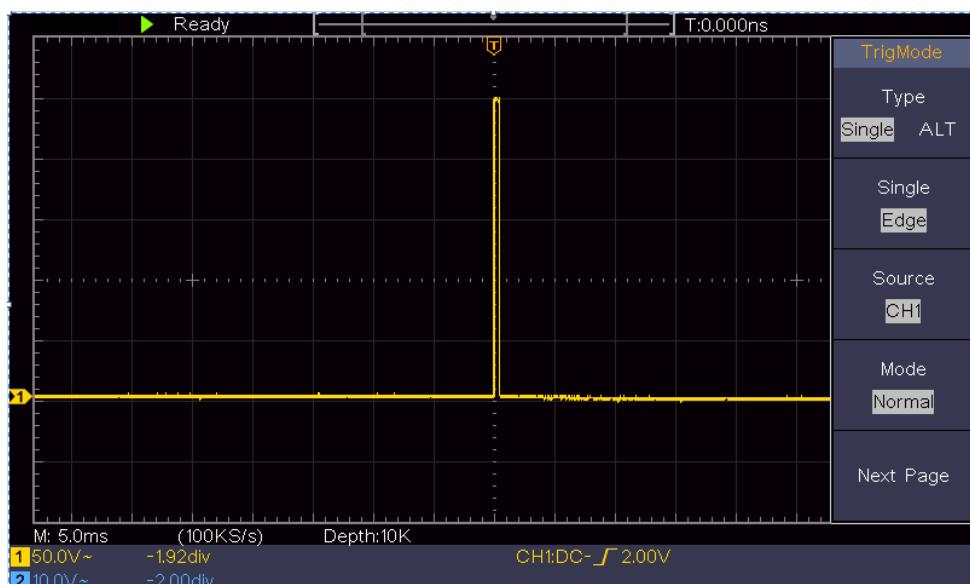

Figure 0-3 Capturing a Single Signal
- (2) Adjust the **Vertical Scale** and **Horizontal Scale** knobs to set up a proper vertical and horizontal ranges for the signal to be observed.
- (3) Push the **Acquire** button to display the right menu.
- (4) In the right menu, select **Acqu Mode** as **Peak Detect**.
- (5) Push the **Trigger Menu** button to display the right menu.
- (6) In the right menu, select **Type** as **Single**.
- (7) In the right menu, select **Single** as **Edge**.
- (8) In the right menu, select **Source** as **CH1**.
- (9) In the right menu, press **Next Page**, select **Coupling** as **DC**.
(10) In the right menu, select **Slope** as  (rising).
(11) Turn the **Trigger Level** knob and adjust the trigger level to the roughly 50% of the signal to be measured.
(12) Check the Trigger State Indicator on the top of the screen, if it is not Ready, push down the **Run/Stop** button and start acquiring, wait for trigger to happen. If a signal reaches to the set trigger level, one sampling will be made and then displayed in the screen. By using this approach, a random pulse can be captured easily. For instance, if we want to find a burst burr of high amplitude, set the trigger level to a slightly higher value of the average signal level, push the **Run/Stop** button and wait a trigger. Once there is a burr occurring, the instrument will trigger automatically and record the waveform during the period around the trigger time. By turning the **Horizontal Position** knob in the horizontal control area in the panel, you can change the horizontal triggering position to obtain the negative delay, making an easy observation of the waveform before the burr occurs (see *Figure 0-3*).